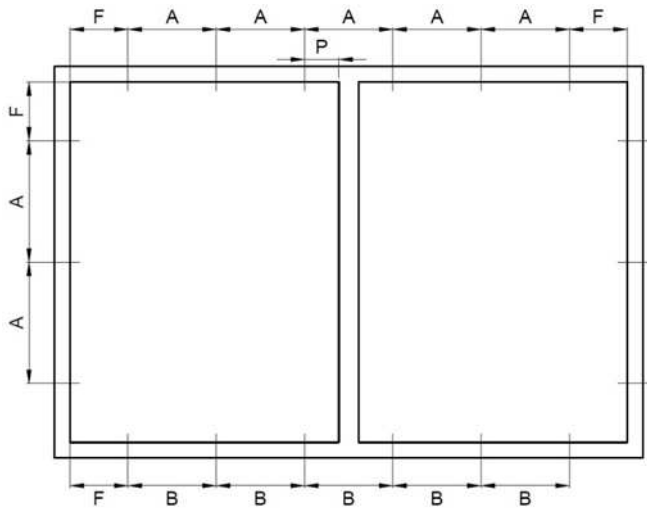

Figure 26. Location of the installation anchors of a fire safety window
5. The maximum distance between the anchors is 500 mm. (See Figure 26 Location of the installation anchors of a fire safety window)